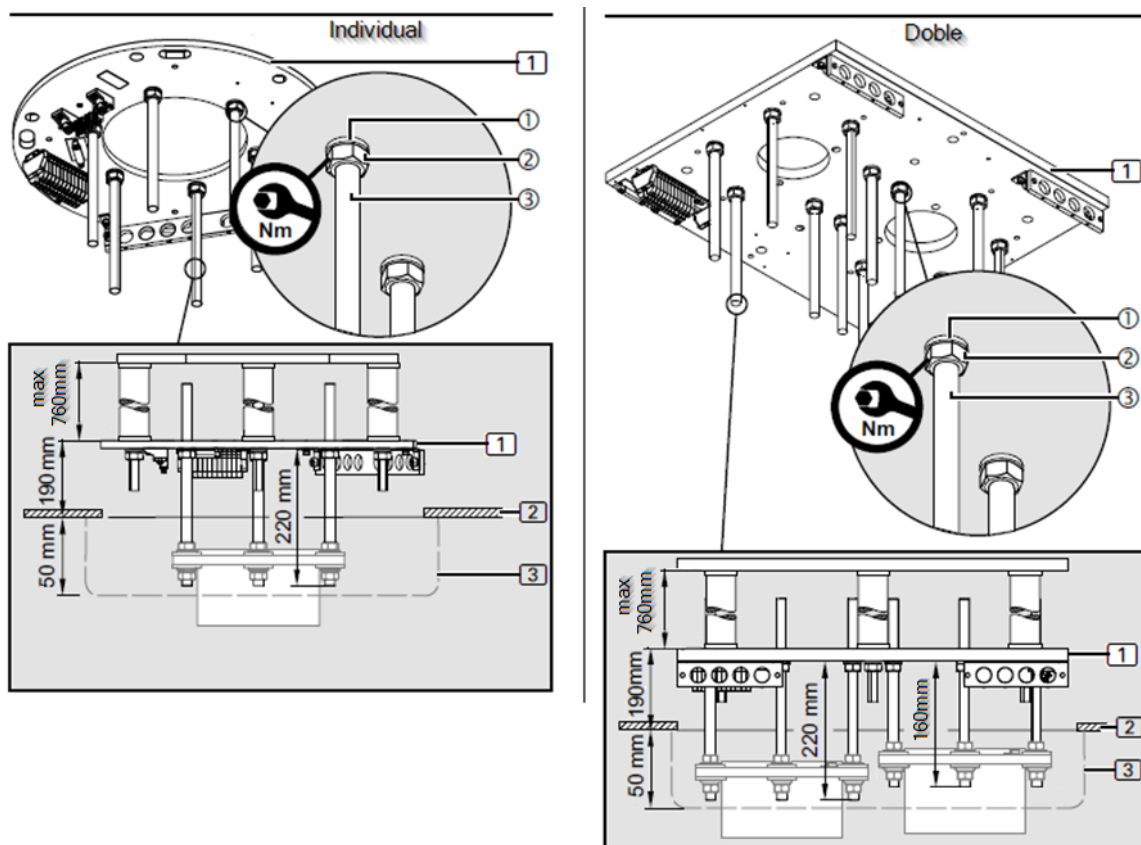

Fig. 11 Mounting of interface plate on low false ceiling structure
- Set the distance between the M16 hex nuts ② and the interface plate (1) to $L = LG - 95 \text{ mm}$ (min. 110 mm / 150 mm).
- Screw the hexagon nuts M16 ② onto the M16 threaded bolts ① at the calculated distance L.
- Using a digital spirit level, align the M16 hex nuts ② horizontally.
- Fit 1 flat washer with an outer diameter of 34 mm ③.
- Place 1 plastic insulating disc ④ (as shown in figure 11) in such a way that the flat washer with an outer diameter of 34 mm ③ sits on the plastic insulating disc ④.
- Secure the plastic insulating disc ④ to the M16 threaded bolts ① with adhesive or elastic tape.